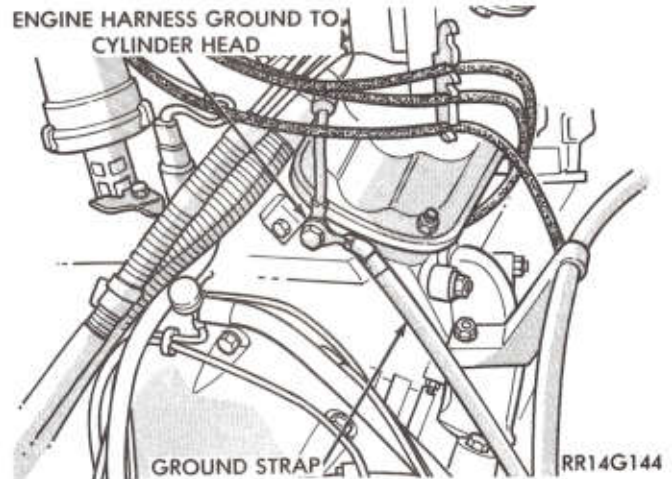

Fig. 4—Engine Ground Strap to Engine
(4) Verify that alternator wiring and belt are correctly installed and tightened.
(5) Verify that engine ground strap is attached at the engine dash panel (Fig. 4).